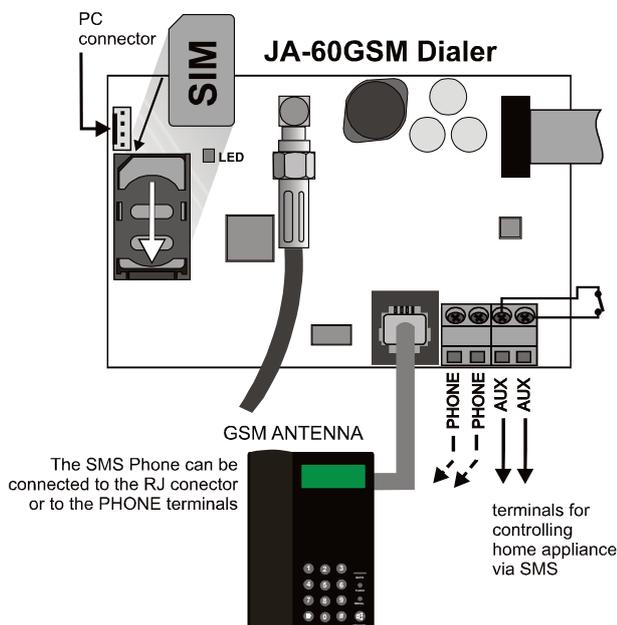

figure 1
- Open the SIM card holder** (by sliding it in the direction shown in figure 1) and **insert the SIM card** into the holder **and close it** by sliding it back. – see figure 1.
- If you use the **AUX output** to control an appliance, connect its cable to the AUX output terminals (normally open dry contact, max. 100mA / 60V) – see figure 1.